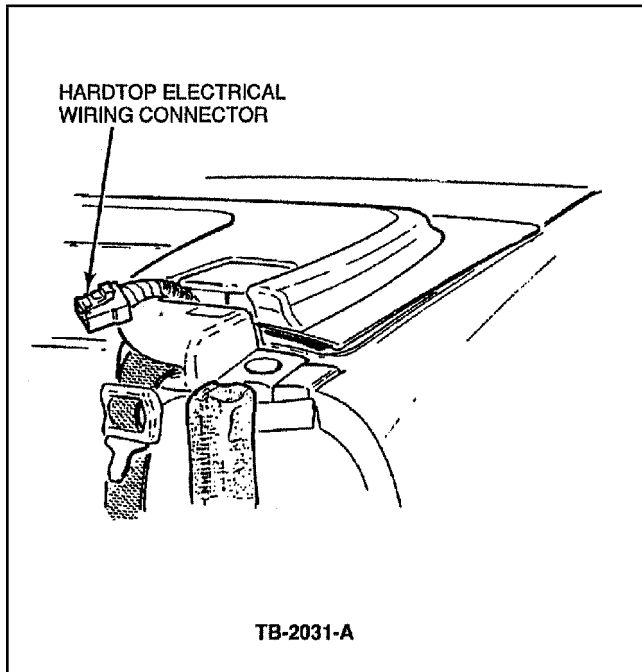

Figure 2 - Article 91-20-2
4. Unclip the hardtop electrical wiring loom from the left hand side trim panel in the convertible top storage area and route out past the left hand hardtop retaining location, Figure 2.